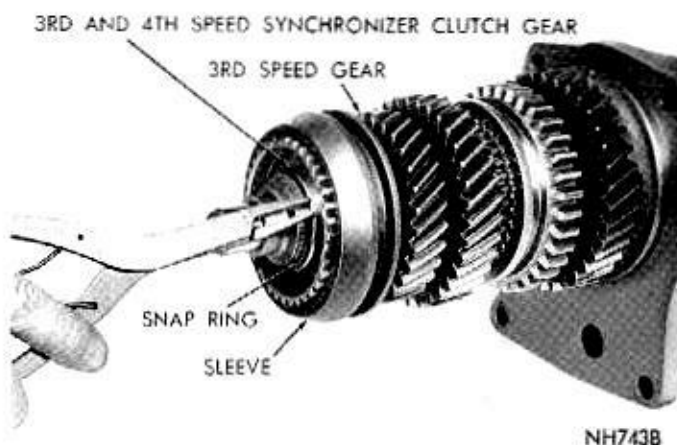

Fig. 19—Disassembling Mainshaft
(5) Remove snap ring (Fig. 19), that retains 3rd and 4th synchronizer clutch gear and sleeve, slide 3rd and 4th synchronizer assembly off end of mainshaft.
(6) Slide 3rd speed gear and stop ring off mainshaft. (Do not separate 3rd and 4th speed synchronizer clutch gear, sleeve, shift struts or springs unless inspection reveals a replacement part is required.)